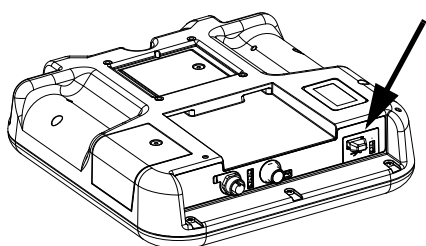

FIG. 42: ADM USB Port
1. Insert USB flash drive into USB port (BL). See FIG. 42 on page 63.
3. Remove USB flash drive from USB port (BL).